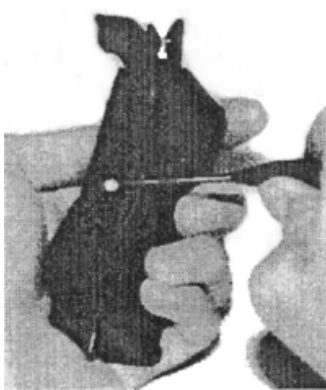

Figure 1
- Remove *ejector axle*, (Fig. 1) located on the upper center of the left side of the housing by pushing the axle out from inside-out.